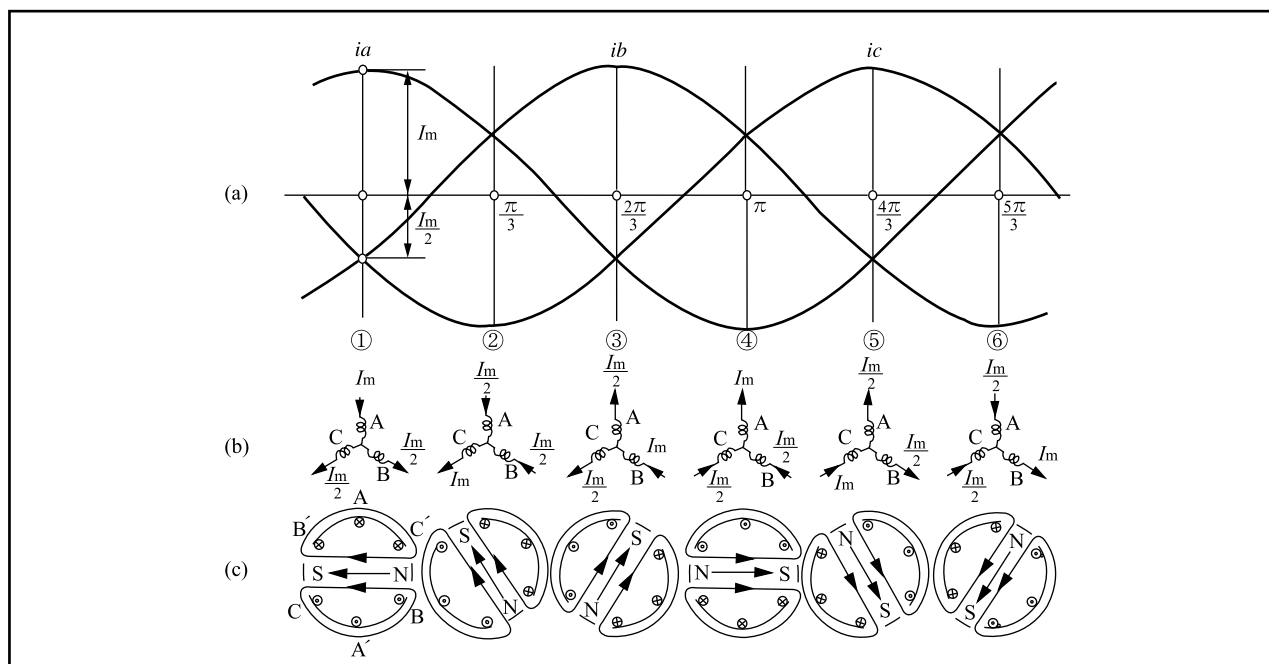

Fig. 2.5 Rotating Magnetic Field due to 3-phase Alternating Current
When the directions ($A \rightarrow A'$, $B \rightarrow B'$, $C \rightarrow C'$) in which current flows into the coil are regarded as the positive direction, the current of the coil in each phase at the moment ① at (a), (b) and (c) in Figure 2.5, $+I_m$ flows into the coil A and $-I_m/2$ flows into both coils B and C. Therefore, the synthetic magnetic flux in the space becomes (c) to create a magnetic field moving from right to left. This means that the magnetic pole is located at the right side and the S at the left side. As such, each moment from ② - ⑥ is followed in order, the synthetic magnetic field created by synthetic magnetic flux is a magnetic field which rotates by 60° clockwise. With time, it rotates to cause a rotating magnetic field which makes a complete turn per one cycle of alternating current. The poles formed at each moment are N and S, and thus this type of motor is called a 2-pole motor.